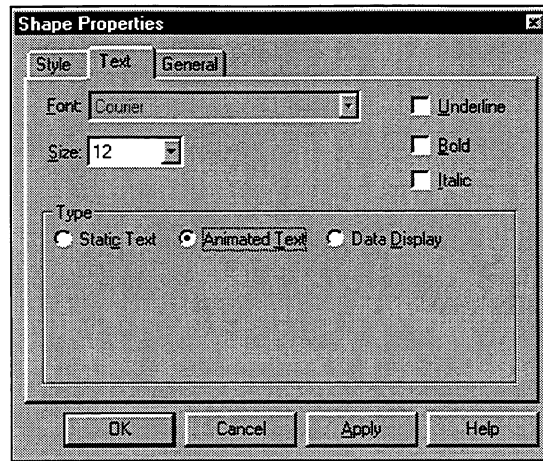

Figure 6-12. Animated Text Properties Page in the Shape Properties Form
4. When you release the left mouse button, the Shape Properties form opens, with the Text page active, as shown in Figure 6-12.